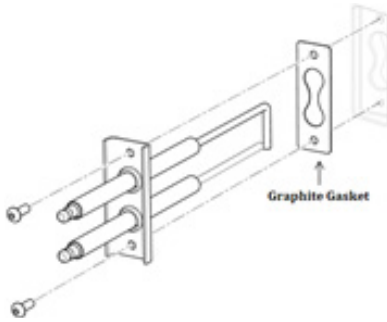

Figure 27: Ignitor Electrode Assembly
- iv. Install ignitor electrode in the orientation shown in Figure 27; otherwise, the unit will not light.